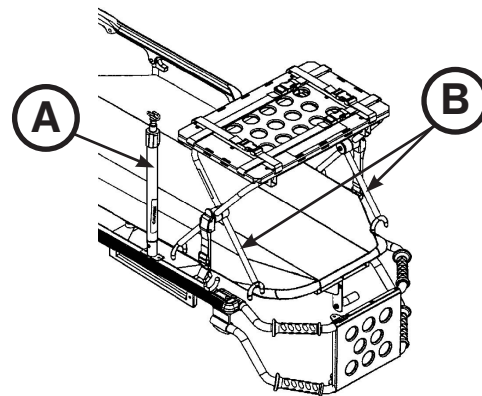

Figure 66c
3. If the cot is equipped with an I.V. pole, raise the I.V. pole (A) to the up position as shown in Figure 66c.
4. Place the defibrillator platform on the cot frame as shown in Figure 66c. Position the inside legs (B) of the defibrillator platform toward the head end of the cot to properly fit the defibrillator platform on the cot frame.